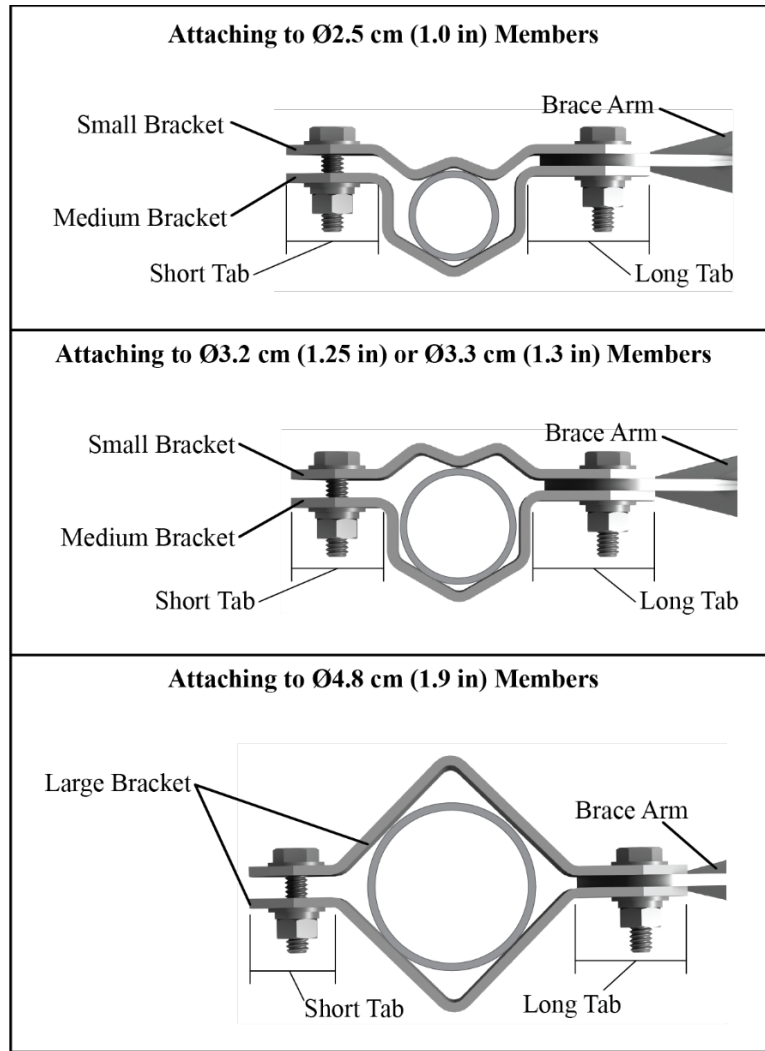

FIGURE 6-6. Bracket selection
1. Consult FIGURE 6-6 and TABLE 6-1 to determine which brackets are needed at either end of the brace to attach it to the crossarm and tripod mast or tower. The figure also indicates what orientation is needed when the small bracket is used.